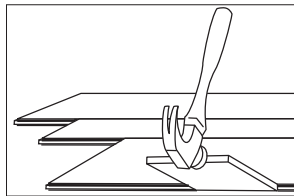

Figure 13
- It may be necessary to align the product with a cut-off piece of scrap as shown (Figure 13 - Keep scrap angle low to avoid edge damage).